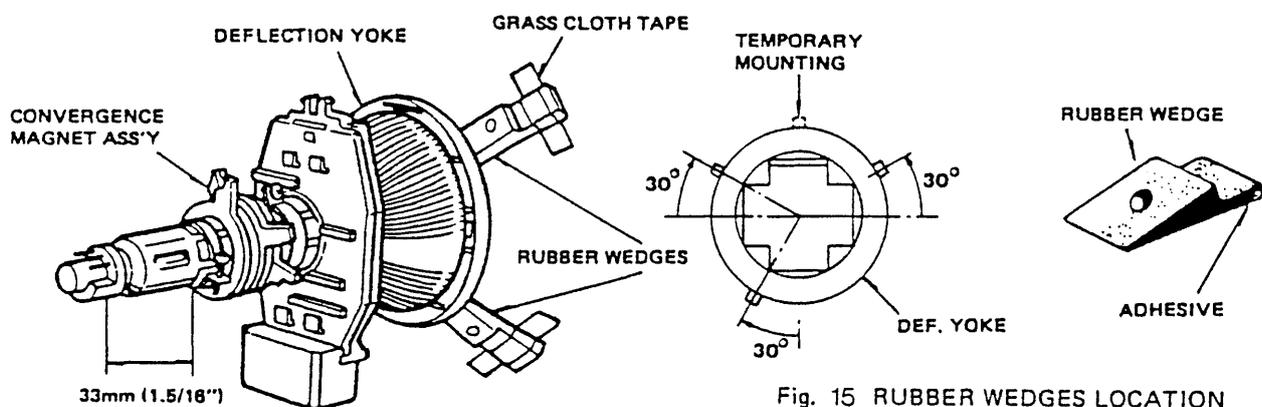

Fig. 15 RUBBER WEDGES LOCATION
Convergence Magnet Assembly and Rubber Wedges need mechanical positioning following Fig. 15.
- (i) Stick 3 grass cloth tapes on wedges as shown in Figure 15.